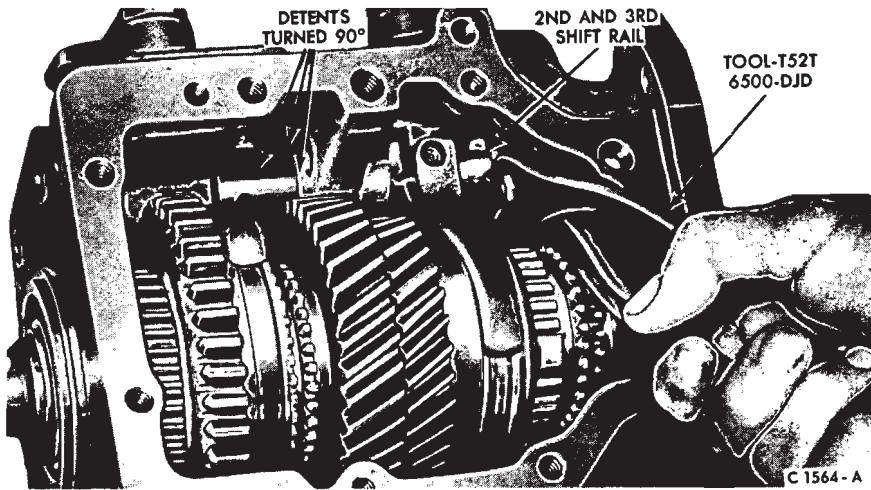

FIG. 12—Rotating Second and Third-Speed Shift Rail
14. Move the second and third-speed shift fork to the second-speed position to gain access to the set screw. Remove the set screw from the fork. Rotate the shift rail 90 degrees as shown in Fig. 12).